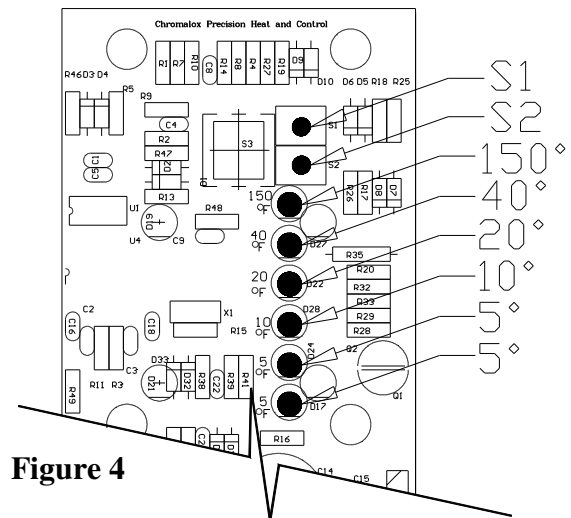

Figure 4
2. Locate the pushbutton S1 and S2 on the rear of the control. (see Figure 4)